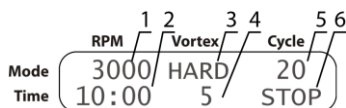

Figure 4. SMS-algorithm
- **SMS-algorithm.** Set the centrifugation speed (fig. 4/1) and time (fig. 4/2). Set the vortexing intensity (fig. 4/3) and time (fig. 4/4). Set the number of SMS-algorithm cycles (fig. 4/5).
- 5.2.5. After the set number of cycles is performed, the unit stops, display shows blinking indication STOP (fig. 4/6), accompanied by a sound signal. Press the **Run/Stop** key to stop the signal. Model **MSC-6000** unlocks the lid after the rotor stops. Open the lid and remove the tubes.